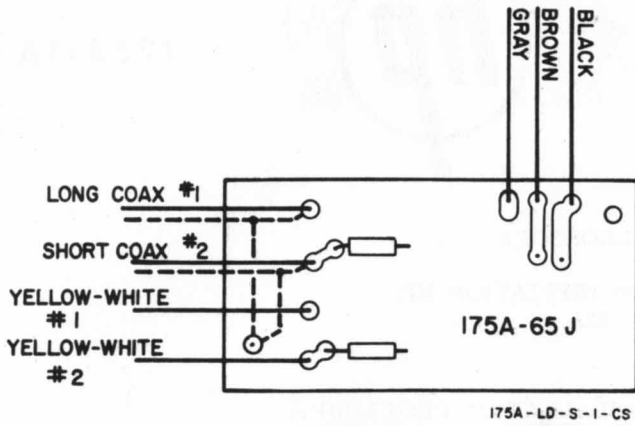

Figure 1. Description and Position of Wires on 175A-65J Board
2. Prefabricate coax cables and wires to etched circuit board 175A-65J supplied with kit. Use 24" yellow-white for #1, and 9" yellow-white for #2. (See figure 1.)
5. Connect and solder the shortest coaxial lead (coax #2 on figure 1) to pin 1 of the horizontal plug-in connector, J105.
6. Connect and solder the 9 inch yellow-white lead (marked #2 on figure 1) to pin 17 of the horizontal plug-in connector, J105.